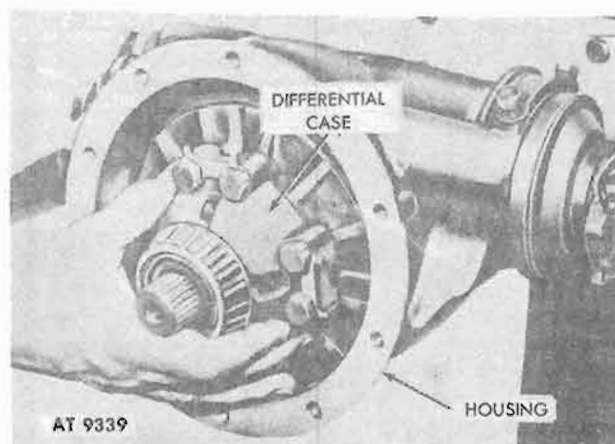

Figure 12-8. Removing Differential Case from Housing.
i. Remove differential case assembly from housing (fig. 12-8).
Figure 12-8 is superseded as follows:
a. Position differential in housing. Refer to figure 12-8.
j. Remove differential case assembly from housing. Refer to figure 12-8.